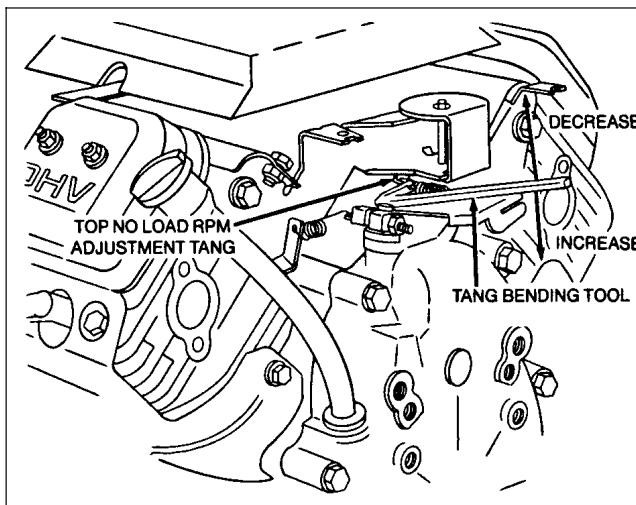

Figure 6
6. Move throttle control to FAST position. Bend high speed spring anchor tang to bring engine speed to  $2800 \pm 50$  RPM (Fig. 6).